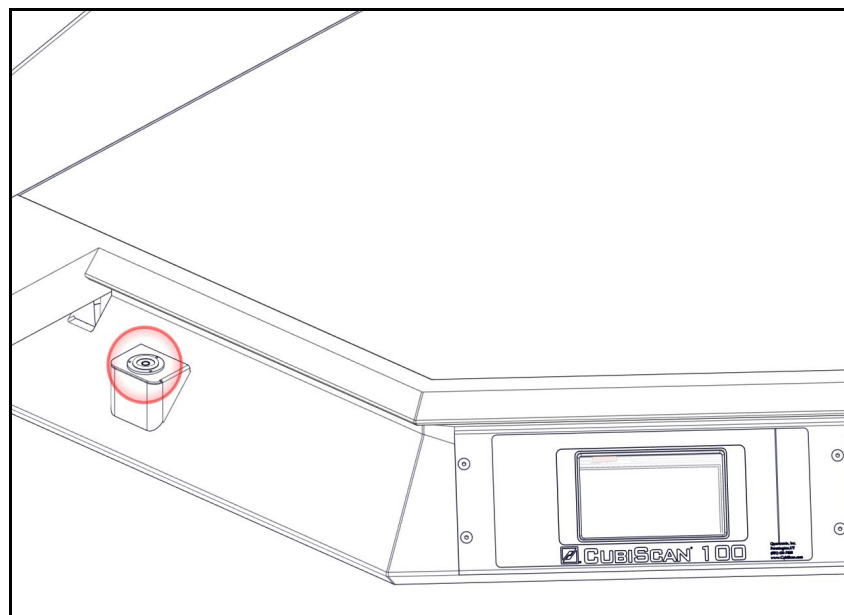

Figure 10
2. **Figure 10** shows the location of the leveling bubble. Look at the leveling bubble and determine if the CubiScan 100-T is level.